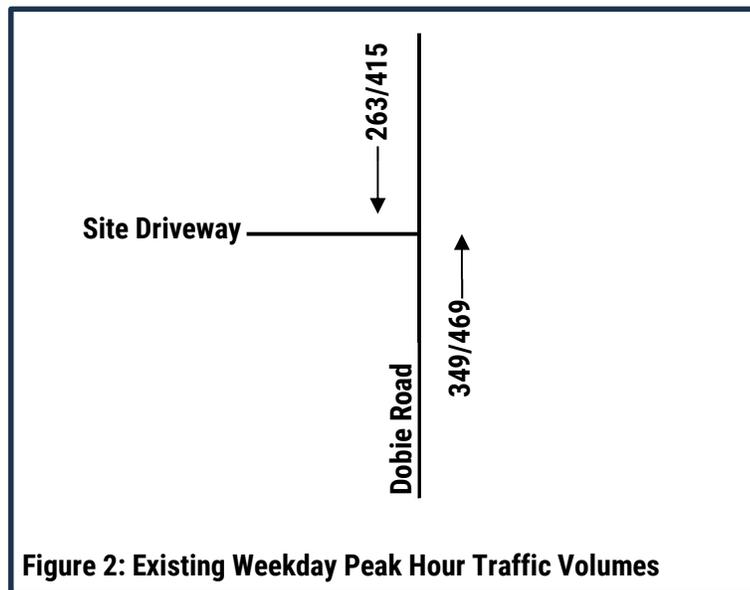
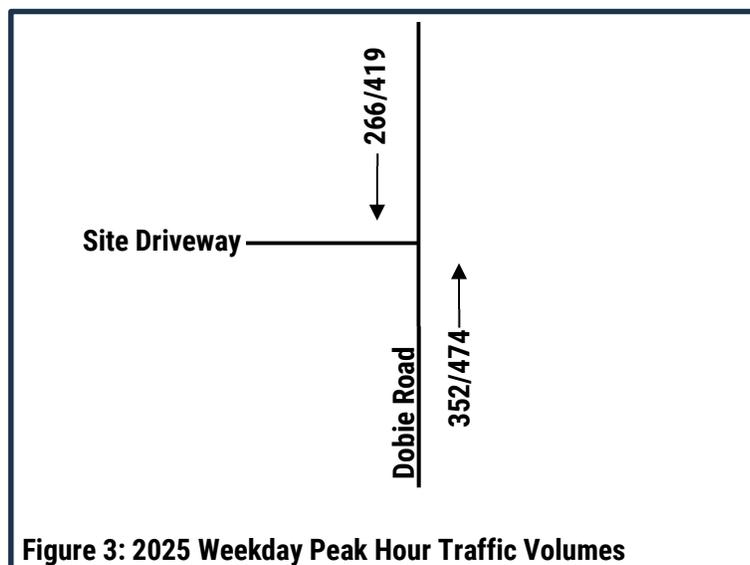

Figure 2: Existing Weekday Peak Hour Traffic Volumes
Figure 3: 2025 Weekday Peak Hour Traffic Volumes
Existing traffic counts were obtained from the MDOT TCDS site for Dobie Road. Specifically, count Location ID 33-5056 was used. This ADT (24 hour count) two-way count was taken on Tuesday, September 19th, 2023. The Weekday AM Peak hour occurred between the hour of 8:00 am to 9:00 am while the Weekday PM Peak hour occurred between the hour of 4:30 pm to 5:30 pm. The two-way count was split into the NB and SB movements based on a count located further north (Location ID 33-0261). Based on the directional split, the traffic count at Location ID 33-5056 was increased for one (1) year at a 1.0% growth rate and split based on Location ID 33-0261 direction of traffic flow. The ADT counts used in the analysis can be found in **Attachment A**. Figure 2 illustrates the 2024 traffic volume on Dobie Road in the vicinity of the proposed site driveway.
The 2025 No-Build Traffic Volumes were calculated by applying a 1.0% growth rate for one (1) year to the growth to the Existing Traffic Volumes (Year 2024) (Figure 2). Figure 3 illustrates the 2025 No-Build Weekday Peak Hour Traffic Volumes.
The 2025 Build Traffic Volumes (Figure 5) were calculated by adding the Site Generated Traffic Volumes (Figure 4) to the 2025 No-Build Traffic Volumes (Figure 3).